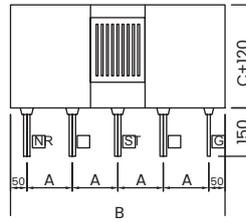

FIGURE 2
2. 1P3W/3P3W Double lines: B=3P4W B (Figure 2, 5)